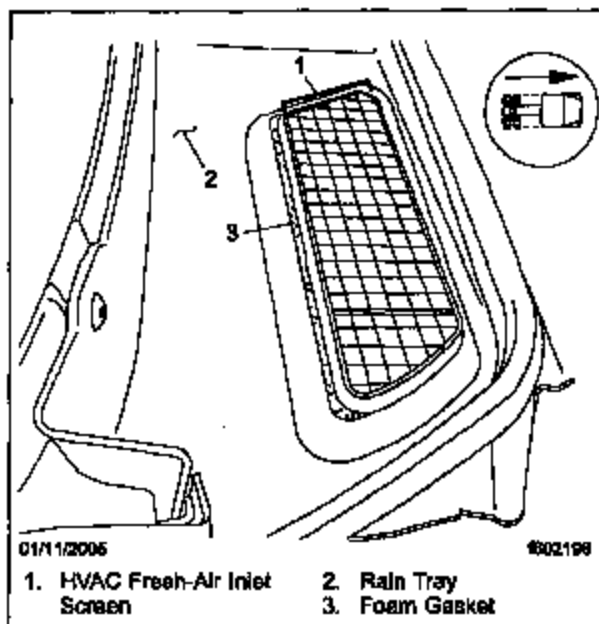

Fig. 1, HVAC Fresh-Air Intake (Century Class and Columbia)
5. Check the foam seal around the HVAC fresh-air inlet on the rain tray for correct positioning and possible damage. See Fig. 1.